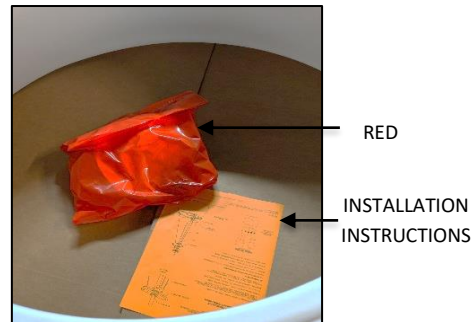

FIG.3 RED BAG AND INSTALLATION INSTRUCTIONS
2. INSTALLATION INSTRUCTIONS (shown in FIG. 3) - Please completely read the install instructions before starting installation.
4. RED BAG (shown in FIG. 3) contains below following items.